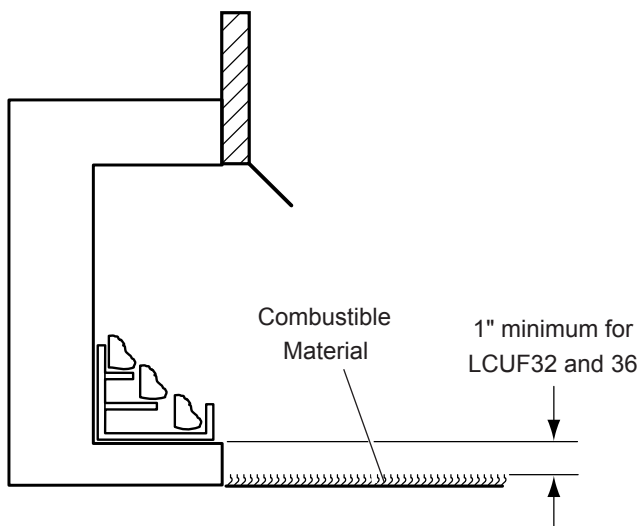

Figure 5 - Minimum Clearance above Combustible Flooring
4. **Floor clearance:** This inner chamber firebox floor must be installed at least 1" above any combustible flooring material, such as carpeting or asphalt tile, which is closer than 14" to the base of the firebox. See Figure 5.